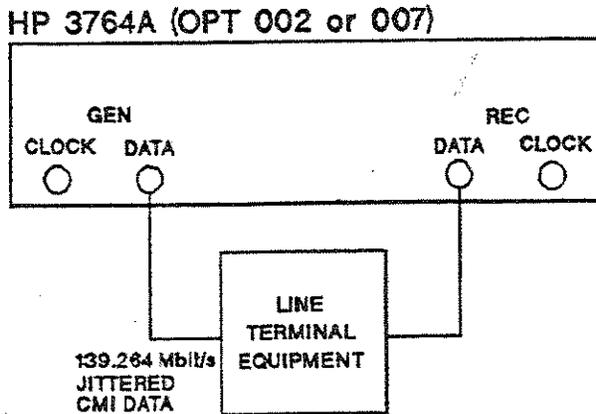

Figure 2-7. Jitter Tolerance Measurement
3. Connect up the equipment as shown in Figure 2-7.